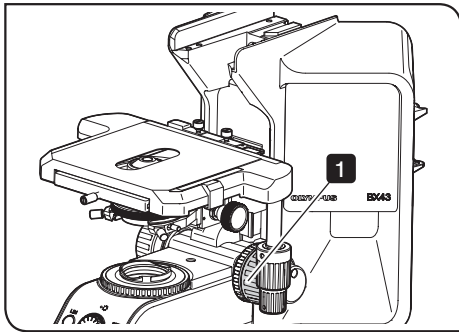

Fig.48
**6 Attaching the specimen holder (Fig.48 to 53)**
When using the regular specimen holder (Fig.48, 49)